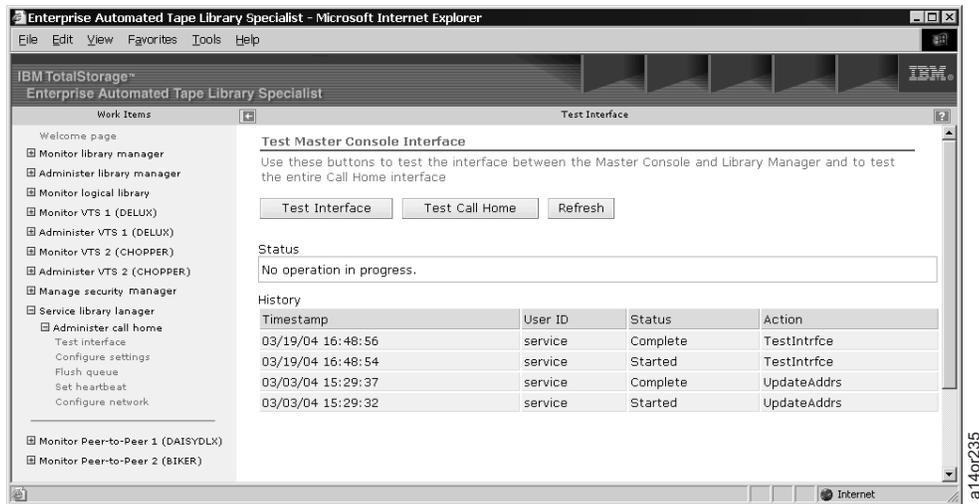

Figure 49. 3494 ATL Web Specialist - Test Interface
1. From the "Administer call home" list on the Web Specialist screen (Figure 48), click **Test interface** to see the options shown in Figure 49 on page 39. If you are prompted for a username and password, use the default values of **service** for the username and **service** for the password. These values can be changed by the 3494 ATL system administrator.
From this screen (Figure 49 on page 39), you can test the (network) interface between the LM and the TSSC (from the perspective of the LM).